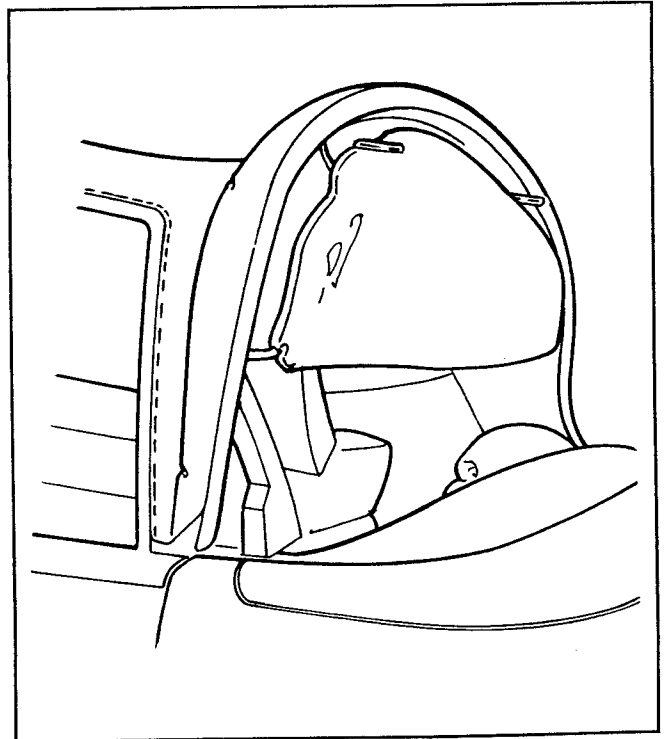

Figure 9. Raise 5-Bow 90°
4. Raise the 5-bow to the 90° position (Fig. 9).